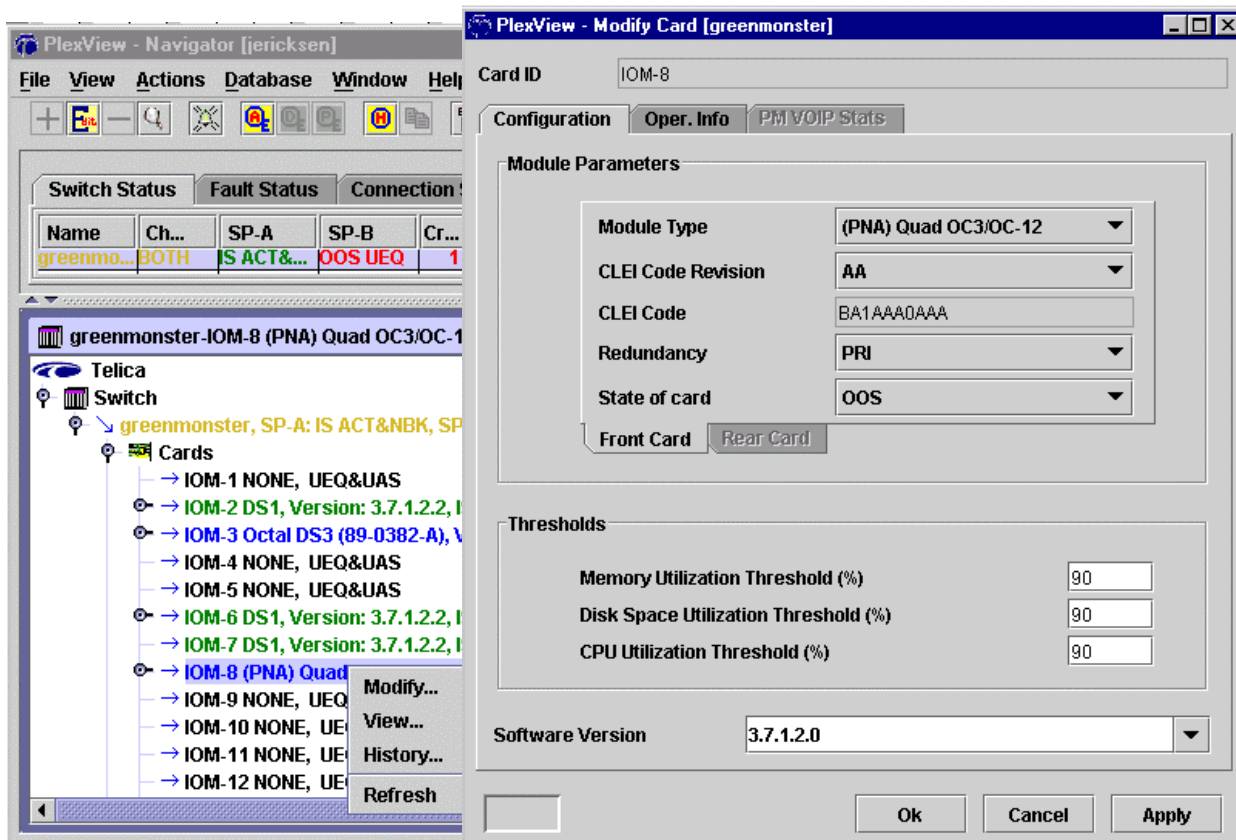

Figure 3. Configuration
20. Double-click the switch to select it for the main panel and then double-click *Cards*. Right-click the desired IOM and then select *View* and *Configuration*. Note the CLEI and software version. Refer to Figure 3.
23. Double-click the switch to select it for the main panel and then double-click *Cards*. Right-click the desired IOM and then select *Modify*. Change the CLEI and then select *Ok* or *Apply*. Refer to Figure 3.
If using **EMS**, then retrieve IOM information. Refer to Step 20 and Figure 3.
If using **EMS**, then refer to Step 20 and Figure 3.
49. Double-click the switch to select it for the main panel and then double-click *Cards*. Right-click the desired IOM and then select *View* and *Configuration*. Note the CLEI and software version. Refer to Figure 3.
52. Double-click the switch to select it for the main panel and then double-click *Cards*. Right-click the desired IOM and then select *Modify*. Change the CLEI and then select *Ok* or *Apply*. Refer to Figure 3.